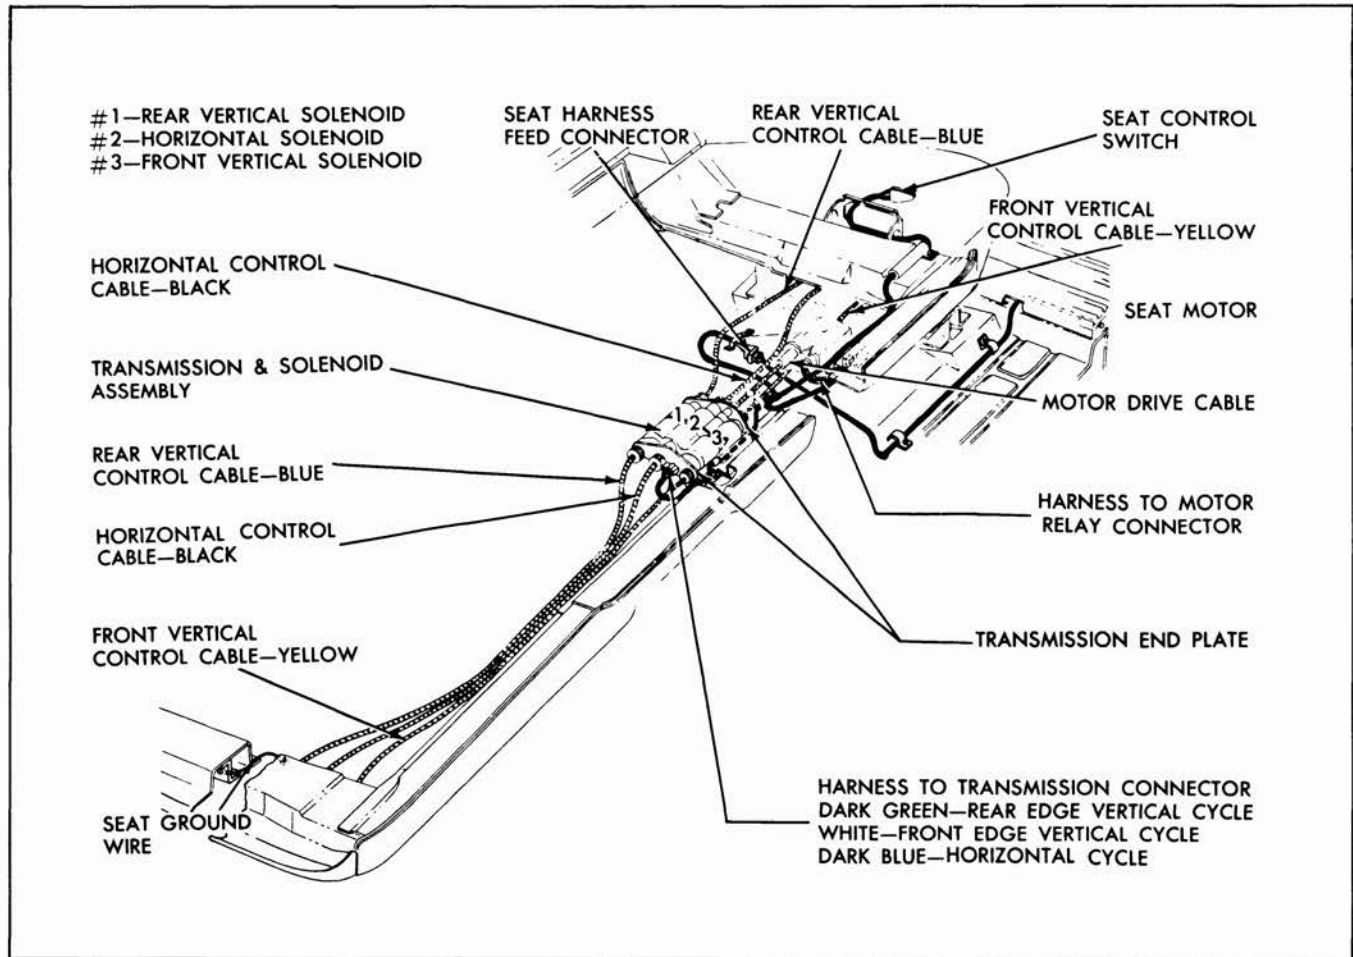

Fig. 8-7 Six-Way Installation
Solenoid #1 (Fig. 8-7) controls the vertical movement of the rear edge of the seat. Solenoid #2 controls the horizontal movement of the rear edge of the seat. Solenoid #3 controls the vertical movement of the front edge of the seat. In addition to the six seat adjuster drive cables at the transmission assembly, a motor drive cable is installed from the motor to the transmission assembly (Fig. 8-7). When one of the control switch buttons is actuated, the motor and one of the solenoids are energized simultaneously. The solenoid plunger engages the large gears with a driving gear. The driving gear rotates the large gears which rotates the drive cables and operates both adjusters. When the switch
4. To install horizontal and vertical cables, reverse removal procedure. Make sure cables are installed to correct gear nuts (Fig. 8-7).
2. Disconnect wire harness connector from transmission (Fig. 8-7).